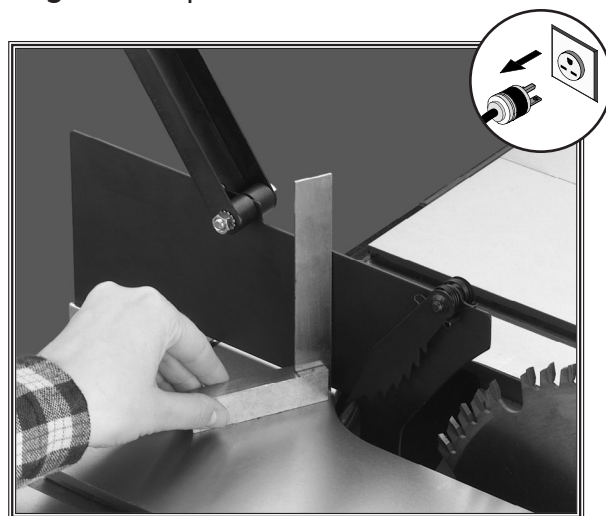

Figure 72. Squaring splitter to table.
3. Use a try square to adjust the blade splitter 90° to the table as shown in **Figure 72**. Tighten the set screws to lock the splitter in place.